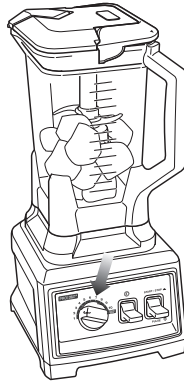

Fig. 7
- 11 When you have reached your desired consistency, reduce speed slowly and turn the unit off by pushing up on the Start/Stop/Pulse toggle and wait for the blade assembly to stop turning. (Fig. 7)